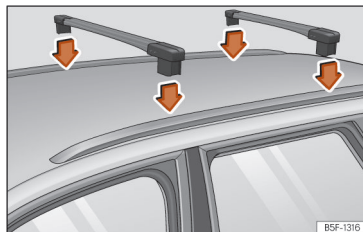

Fig. 201 Mounting points for the roof bars for the roof rack (Leon Sportstourer).
Valid for the Leon Sportstourer: The crossbars are assembled on the roof railings »» Fig. 201. The distance between cross bars (A) should be approx. 75 cm and the distance between the front bars and the front bracket of the side roof bar (B) should be 30 cm.